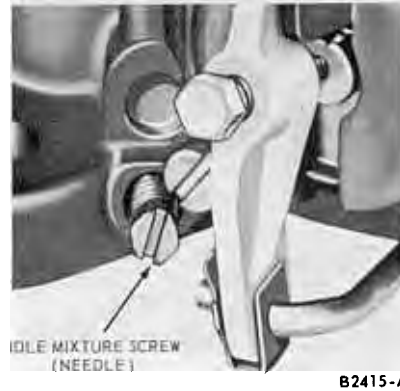

FIG. 14—Idle Fuel Mixture Adjustment—Ford 1-V
Refer to Figs. 14 and 15 for views of the Ford 1-V carburetor idle fuel mixture and idle (hot engine) speed adjustment screws.
Refer to Figs. 14, 15, 16 and 17 for views of the idle fuel mixture and idle (hot engine) speed screws for the various carburetor applications.
5. Turn the idle mixture needle(s) (Figs. 14 or 16) inward until the engine rpm begins to drop, due to the lean mixture. Turn the needle(s) outward until the rpm increases and begins to drop. On cars equipped with a Thermactor exhaust emission system, the outward adjustment of the idle fuel mixture needle(s) is the final fuel mixture needle adjustment required. On cars without the Thermactor system, turn the idle mixture needle(s) inward for maximum rpm and engine smoothness. Always favor a slightly rich mixture. On Ford 2-V and 4-V carburetors, the needles should be turned evenly and alternately approximately the same amount. The final setting may vary about $\frac{1}{2}$ turn difference between needles.